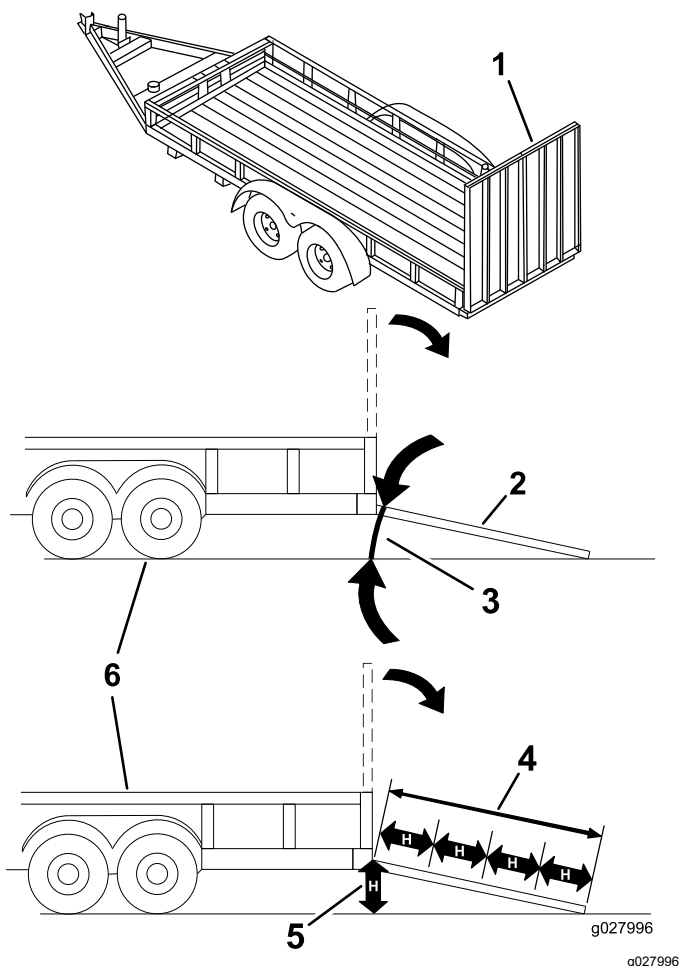

Figure 30
Loading a machine onto a trailer or truck increases the possibility of tip-over and could cause serious injury or death (Figure 30).
3. Lower the ramp, ensuring that the angle between the ramp and the ground does not exceed 15 degrees (Figure 30).
1. Lower the ramp, ensuring that the angle between the ramp and the ground does not exceed 15 degrees (Figure 30).